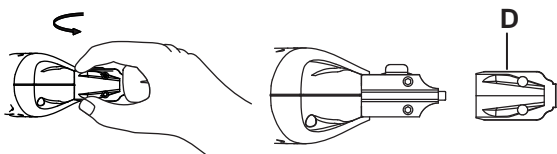

Fig. 7
- > Remove the plastic protection cover D (Fig. 7)